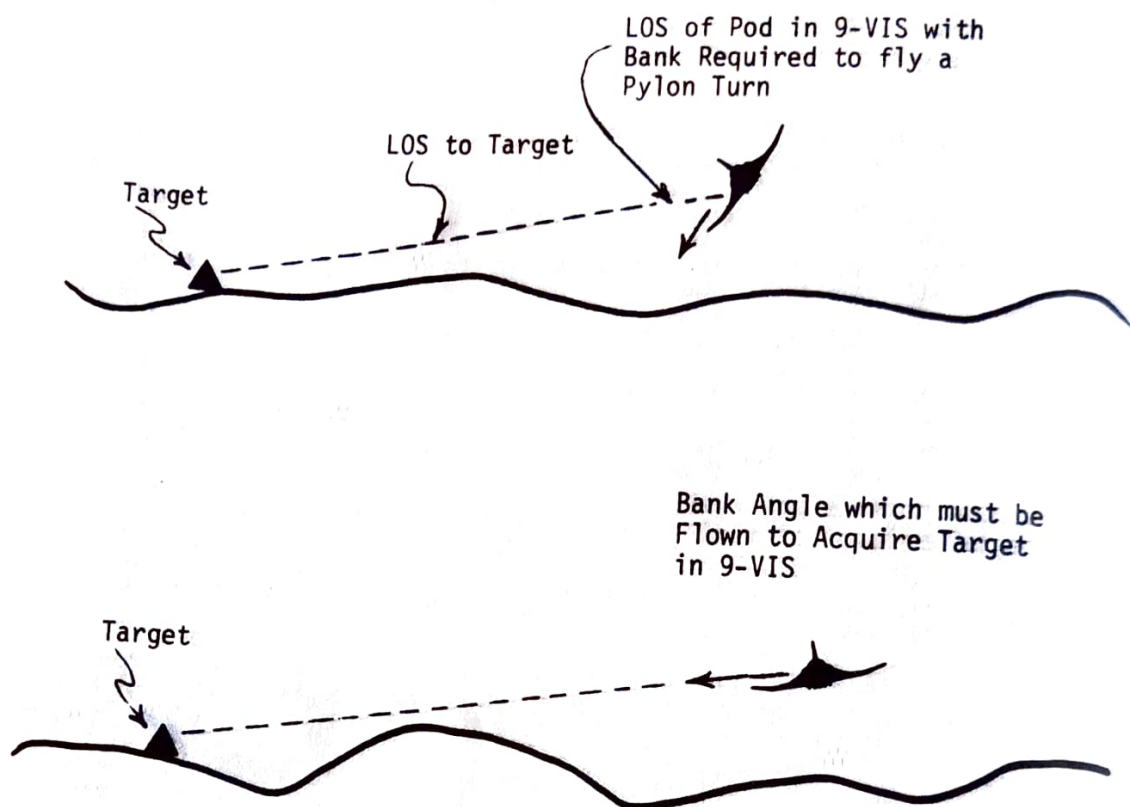

Figure 23, 9-VIS Acquisition
(3) Operation. Accomplishing a 9-VIS target acquisition in minimum time with a high probability of success is a difficult if not impossible task. An aiming index (grease pencil marks) is established on the front canopy during ground operation. There is a widespread belief that a pylon turn is flown around the target until it is identified in the video by the WSO. Figure 23 points out why this is impossible at low altitude. The relatively small bank angles which must be flown to ensure the target is in the FOV of the pod, do not generate the turn rates required to fly a pylon turn (keep the target positioned at 9 o'clock indefinitely). Therefore, the pilot must maneuver the aircraft to position the target forward of 9 o'clock, set the bank angle to ensure the target will "pass through" the FOV, and then communicate with the WSO to indicate when his reference marks are on the target. If target acquisition is not accomplished, the whole procedure must be repeated. The success rate of 9-VIS acquisitions at low altitude qualify it only as a backup mode and no delivery should be planned with this as a primary mode.
(4) WRCS OUT/INS OUT. There is no change in the 9-VIS acquisition when operating in these degraded modes.